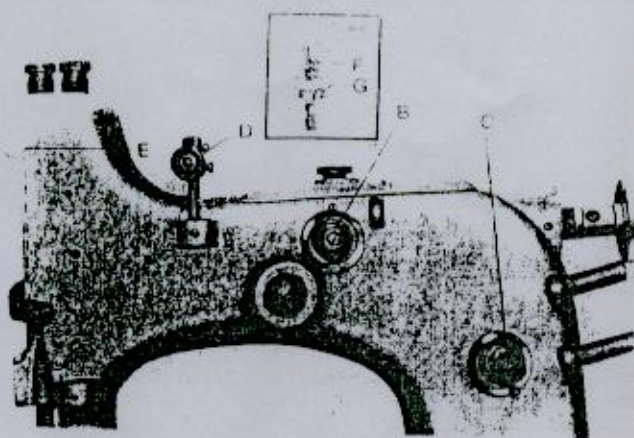

Fig. 10
The presser foot pressure of styles GK35-SB and GK35-6P can be adjusted by adjusting screw (A, Fig. 10) on the upper cover plate. When adjusting, loosen lock nut (C, Fig. 10), turn adjusting screw (A) to increase pressure, and turn out to decrease pressure. Retighten lock nut (C) after adjusting.
Thread tension is adjusted by thread tension assembly (B, C, Fig. 10). Tension of upper thread(B) is generally stronger than that of lower thread(C). Turn thread tensioner nut(B, C) in to increase the tension, turn it out to decrease the tension. If the stitch is still not good, should adjust the height of thread adjusting bar(D). The height of the thread adjusting bar(D) is at the same level with the thread eye of the needle bar connection in its highest position.